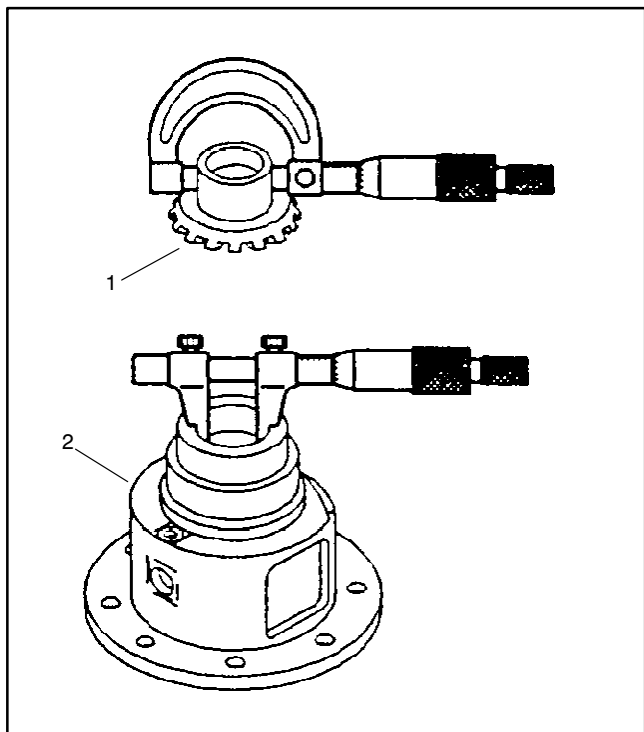

Figure 23
1. Measure the differential side gear O.D. and the differential case I.D. to determine the side gear to case clearance (Fig. 23). Replace components as necessary.